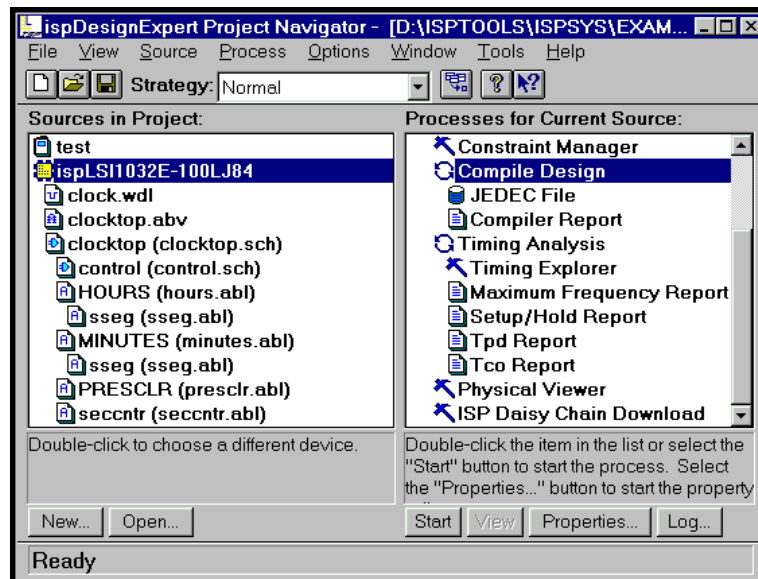

Figure 1-12. Project Navigator - Compile Design Process
2. In the Processes window, select the Compile Design or Fit Design process (Figure 1-12).